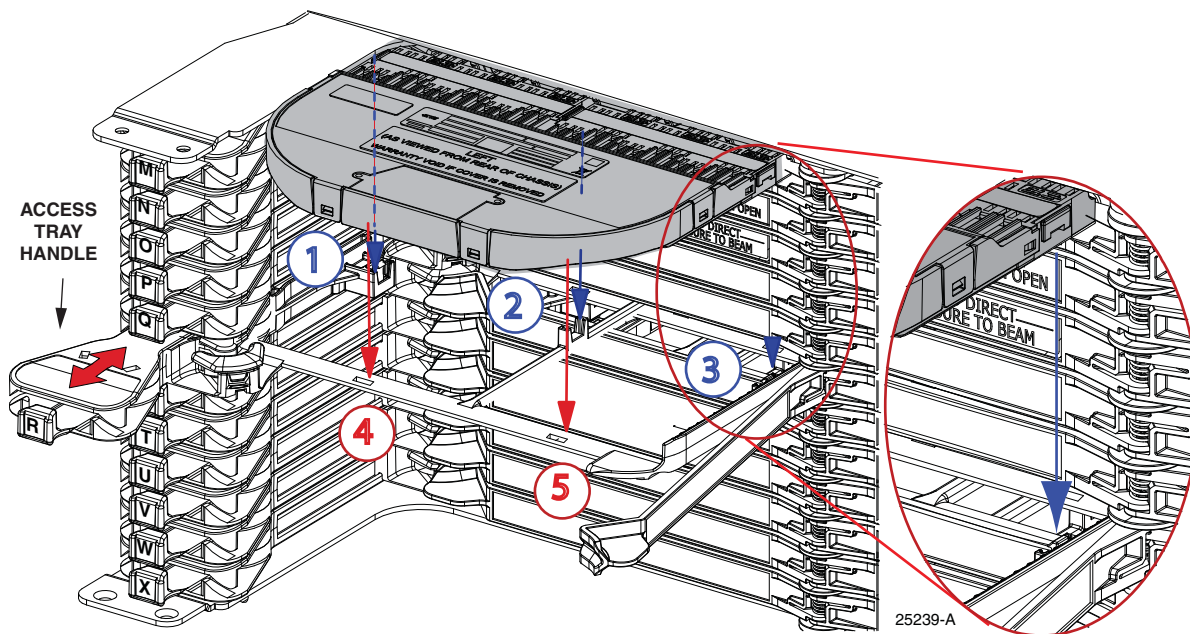

Figure 1. Installing a Single Height VAM
2. Snap the module down in locations 1, 2, and 3, as shown in Figure 1, then squeeze the module and access tray crossbar at location 4 and 5, as shown, until the module snaps in.